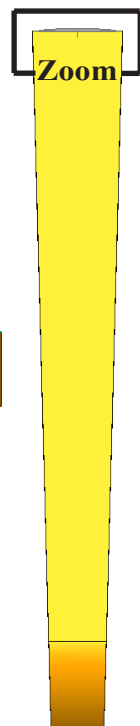

Fig. 32
Step 4. Zoom in around **rear edge of body**, **Fig. 32**. To **zoom**, hold down **Shift key** and drag with middle mouse button (wheel). To **pan**, hold down **Ctrl key** and drag with middle mouse button (wheel).